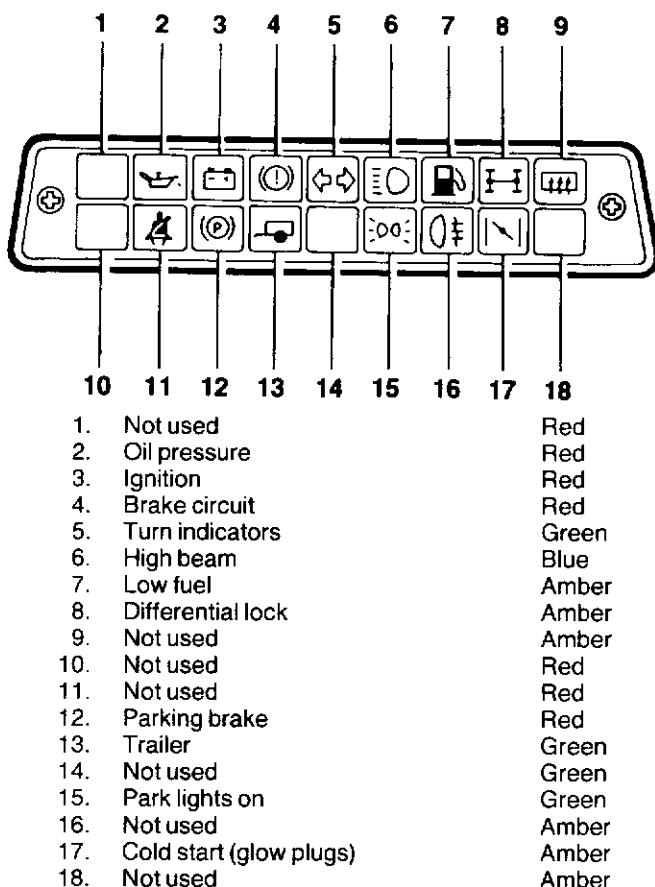

Figure 1-6 Warning lights
- a. The oil pressure warning light (Fig. 1-6 item 2) indicates when the oil pressure is insufficient for safe engine operation. The light should illuminate when the ignition is turned on and extinguish once normal engine oil pressure is established. If this light illuminates during normal running, the vehicle should be stopped immediately and the cause determined.
- b. The ignition warning light (Fig. 1-6 item 3) indicates a malfunction in the battery charging circuit. The light should
- c. The brake circuit warning light (Fig. 1-6 item 4) indicates that leakage has occurred from either the front or rear brake circuit. In this case, the light will illuminate when the foot brake is applied. In addition, a brake pad wear indicator is fitted to the front left hand caliper and will actuate the light when the pad thickness is reduced to approximately 3 mm. Normally, the light will illuminate momentarily when the ignition is turned on, then extinguish. If the light illuminates during normal running, the vehicle should be stopped immediately and the cause determined.
- d. The turn indicator warning light (Fig. 1-6 item 5) flashes when the turn indicator lights are functioning. Both arrows will flash
- e. The high beam warning light (Fig. 1-6 item 6) illuminates when the head light high beam has been selected. The light also illuminates when the head light flasher is used.
- f. The low fuel warning light (Fig. 1-6 item 7) illuminates when there is approximately nine litres of fuel left in the fuel tank and will remain illuminated until the fuel supply is replenished. When cornering, the light may flash intermittently before the fuel reaches the nine litre level.
- g. The differential lock warning light (Fig. 1-6 item 8) illuminates when the transfer case control switch is operated to lock the differential. This is necessary when traction to one or more wheels is likely to be lost.
- h. The parking brake warning light (Fig. 1-6 item 12) will illuminate if the parking brake is applied while the ignition is on.
- i. The trailer warning light (Fig. 1-6 item 13) provides an indication that the turn indicators on a towed trailer are functioning correctly. The light will flash simultaneously with the vehicle turn indicator warning light when a trailer is connected to the vehicle's NATO socket. When no trailer is used, the light will flash momentarily each time the combination switch is moved up or down. In addition, the trailer warning light will flash when the hazard warning switch is activated.
- j. The park light warning light (Fig. 1-6 item 15) indicates when the park lights have been switched on.
- k. The cold start warning light (Fig. 1-6 item 17) illuminates when the starter switch is in the glow plugs on position.